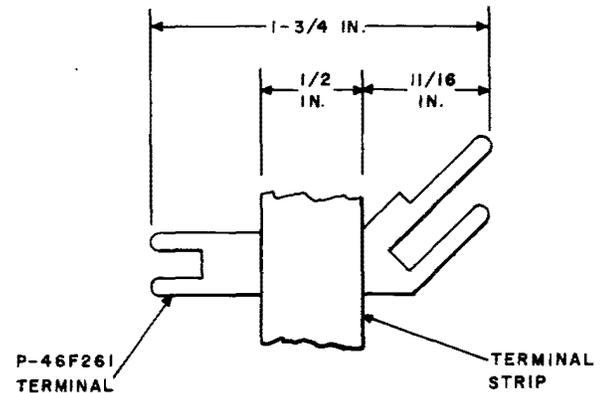

Fig. 9—P-46F261 Flat Punched Terminals Arranged for Wrapped Connections
**3.14** Select the proper replacement terminal by referring to Fig. 9 and 10. Using the 0.052-inch twist drill and the hand or electric drill, enlarge the hole from which the broken terminal was removed by running the twist drill through